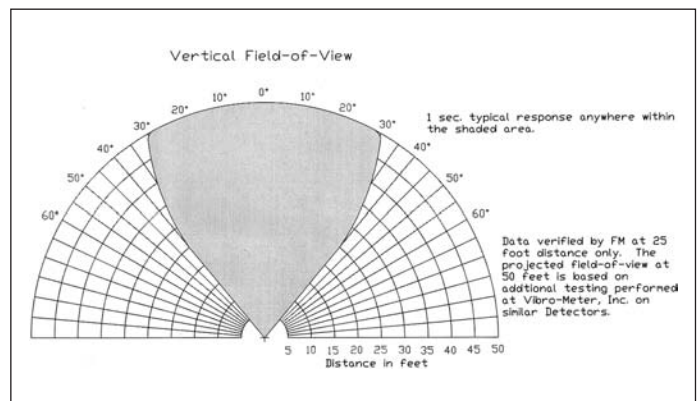

Fig 2. 660/860 vertical field of view
- 80 degree vertical field-of-view (figure 2)